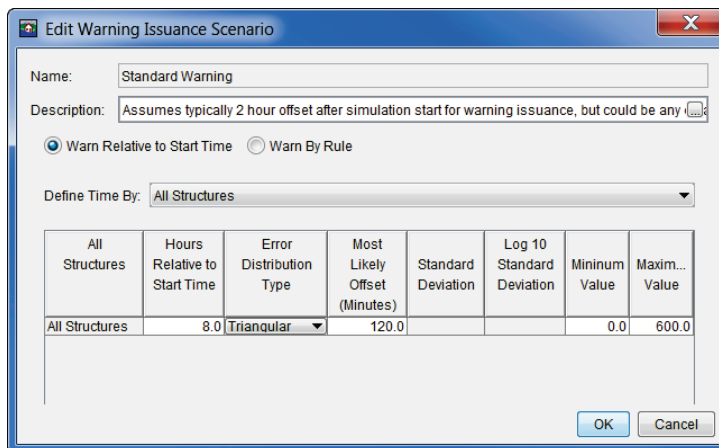

Figure L.50 HEC-FIA – Warning Issuance Scenarios Dialog Box
2. The HEC-FIA **Warning Issuance Scenarios** dialog box (Figure L.50). This editor allows the user to edit information related to the warning issuance scenario option of HEC-FIA. For further detail on this editor, reference the HEC-FIA User's Manual.
3. Click **OK**, the HEC-FIA **Warning Issuance Scenarios** dialog box will close (Figure L.50).